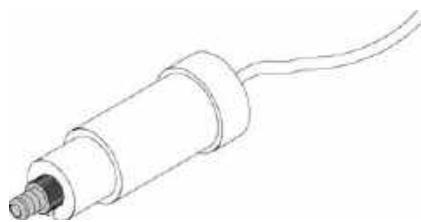

Figure 10 Mounting Tool
- 5 Connect the solvent tubes from the bottle head assemblies to the inlet connectors A to D (typically the left connection of the channel) of the degasser. Use the mounting tool shown in Figure 10 on page 32 to fix the tube screw. Fix the tubes in the clips of the degasser.